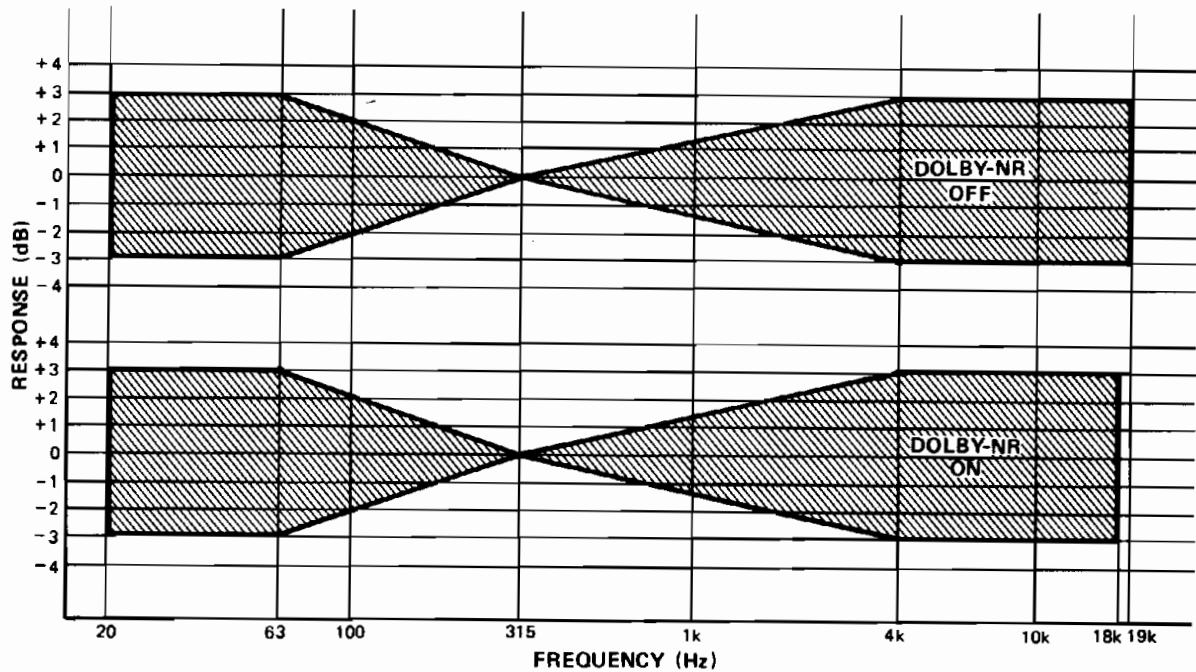

Fig. 5 – FeCr & CrO₂
17. If the above frequency response is not within the shaded DOLBY-NR OFF area of Fig. 5, adjust VR305 (left) and VR306 (right) slightly. Repeat steps 15 and 16 until playback frequency response on the V.T.V.M. 2 is adjusted within the DOLBY-NR OFF range as shown in Fig. 5.
18. Set Dolby NR switch to ON position and check if frequency response is within range of DOLBY-NR ON section of Fig. 5, if not repeat DOLBY-NR OFF procedures.
22. If the above frequency response is not within the shaded DOLBY-NR OFF area of Fig. 5, adjust VR307 (left) and VR308 (right) slightly. Repeat steps 20 and 21 until playback frequency response on the V.T.V.M. 2 is adjusted within the DOLBY-NR OFF range as shown in Fig. 5.
23. Set Dolby NR switch to ON position and check if frequency response is within range of DOLBY-NR ON section of Fig. 5, if not repeat DOLBY-NR OFF procedures.